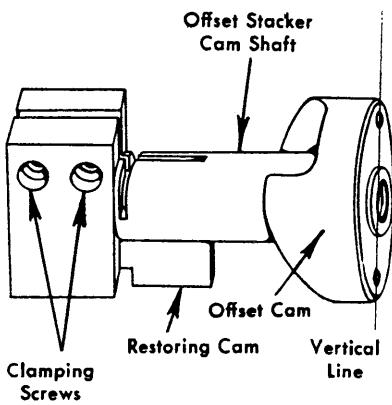

Figure 53. Cam Shaft Timing
#### CAMSHAFT TIMING (FIGURE 53)
2. Loosen the locking screws and position the cam-shaft laterally on the stacker shaft to provide 1/32 inch clearance between the low dwell cam surface and the cam fingers. Use care not to turn the cam shaft and destroy the adjustment shown in Figure 53.